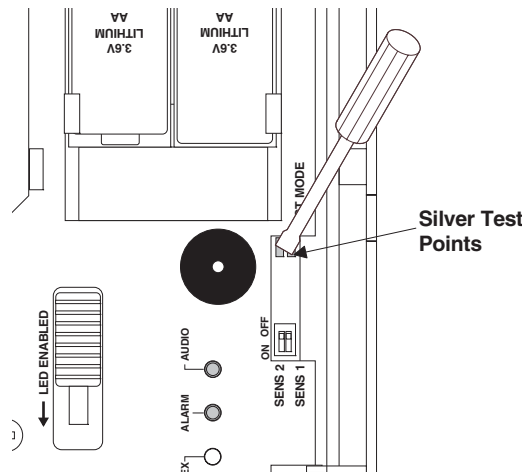

Figure 5. Shorting Out the Sensor Board Test Points
3. Place the sensor in test mode by shorting out the silver test points on the sensor board using a small flathead screwdriver (see Figure 5). When the sensor is in test mode the green LED blinks once per second.